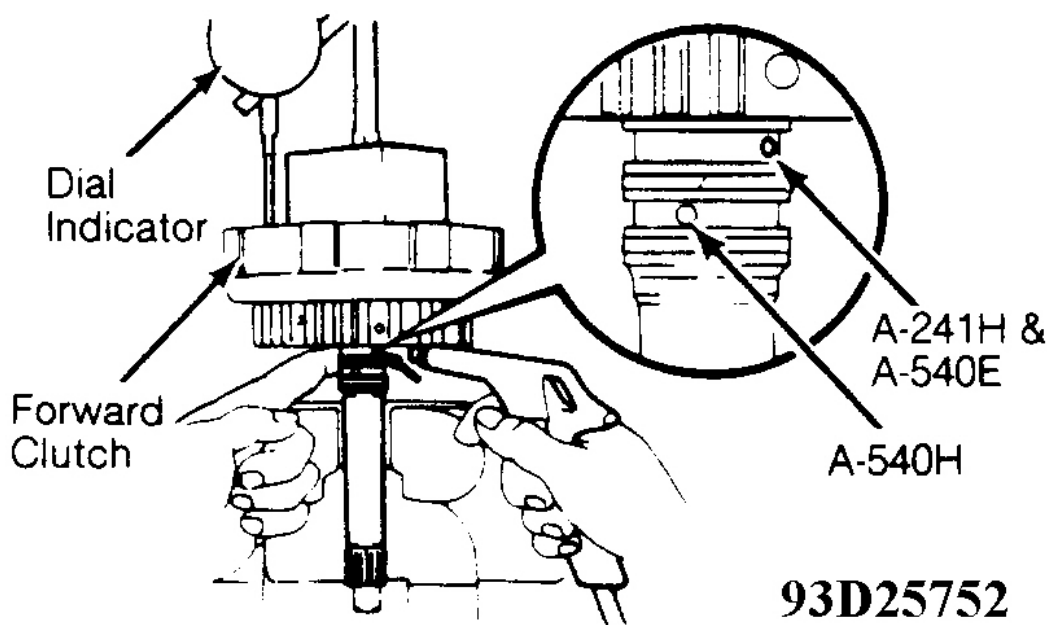

Fig. 21: Checking Forward Clutch Piston Stroke
1. Prior to disassembly, check piston stroke of forward clutch. Using a dial indicator, measure piston stroke by applying and releasing 54-114 psi (4-8 kg/cm²) of compressed air. See **Fig. 21**. Piston stroke should be .0559-.0713" (1.420-1.810 mm) for A-241H. If piston stroke is greater than maximum, inspect each component.
4. If disc, plate or flange have been replaced, check piston stroke. Measure piston stroke by applying 57-114 psi (4-8 kg/cm²) of compressed air. See **Fig. 21** .